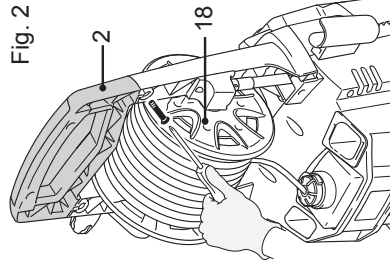

Fig. 2
2. Attach the handle (2) to the support of the hose reel (18) using two screws (22). Tighten the screws using a suitable crosshead screwdriver. (Fig. 2).